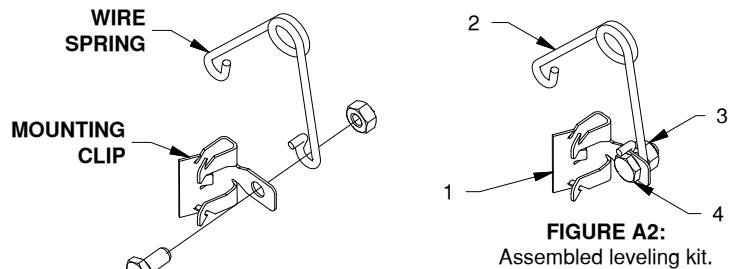

FIGURE A1:
- Clip assembly.** Assemble the 1/4" cap screw, mounting clip, spring and 1/4" lock nut as shown in figure A1 and A2. Tighten the lock nut just enough that the spring will stay in place but can also be adjusted if needed.